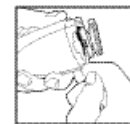

Fig. 2
- Un-clip the top metal bracket by prying the lower back edge over the snap. Lift the lip of the rubber boot off the housing. ( fig. 2 )